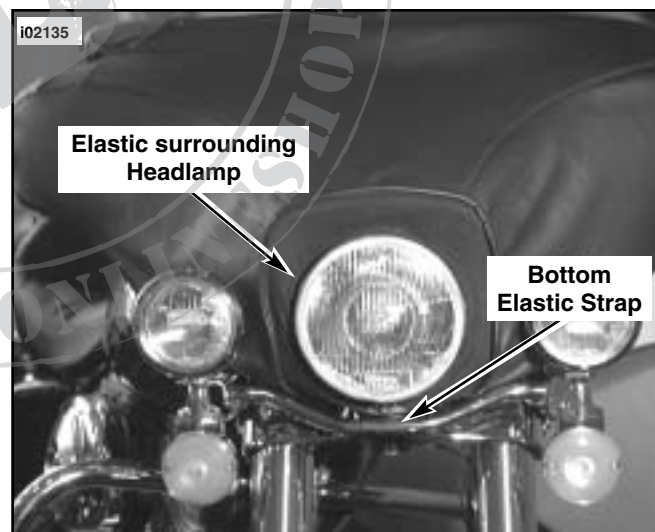

Figure 2. Proper Orientation of Fairing Bra (Headlamp Trim Ring Not Installed)
6. See Figure 2. Orient the elastic portion of the bra around the headlamp, however in front of, the retaining ring as shown.